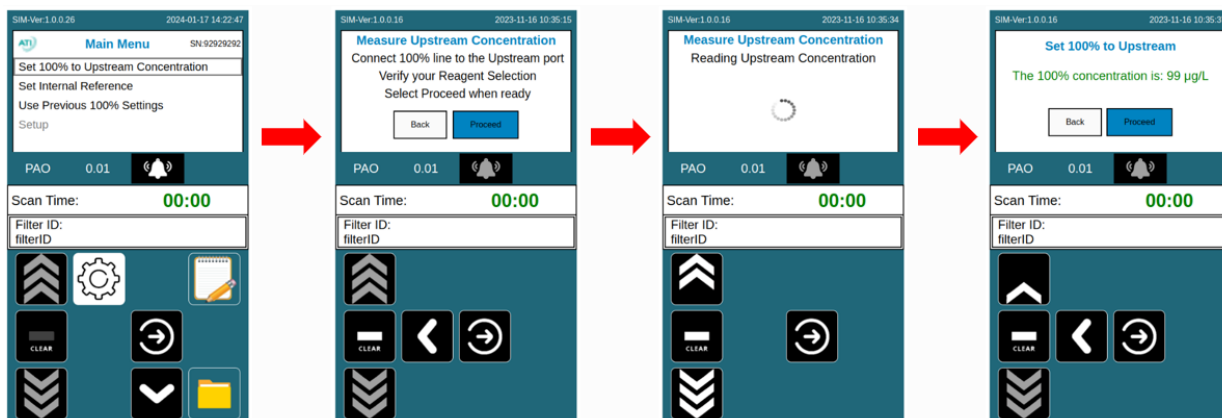

Figure 2. Set 100% Upstream concentration
Step 1. Use Arrow keys to navigate to the desired Upstream selection option (Figure 2 - Figure 4).